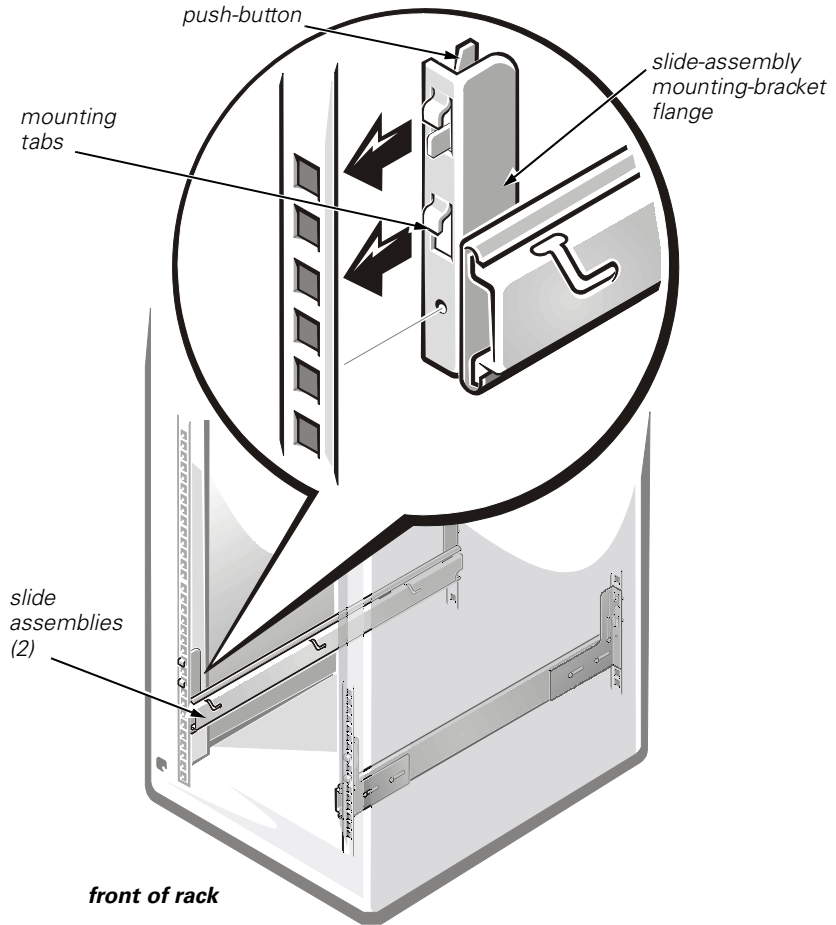

Figure 1-8. Installing the Slide Assemblies
| Figure 1-8. Installing the Slide Assemblies | 1-10 |
4. At the front of the rack cabinet, position one of the slide assemblies so that its mounting bracket flange fits between the marks or tape you placed on the rack, marking the upper and lower edges of the template (see Figure 1-8).
5. Align the slide-assembly mounting-bracket flange (on the front of the slide assembly) with the square holes in the front vertical rail (see Figure 1-8).